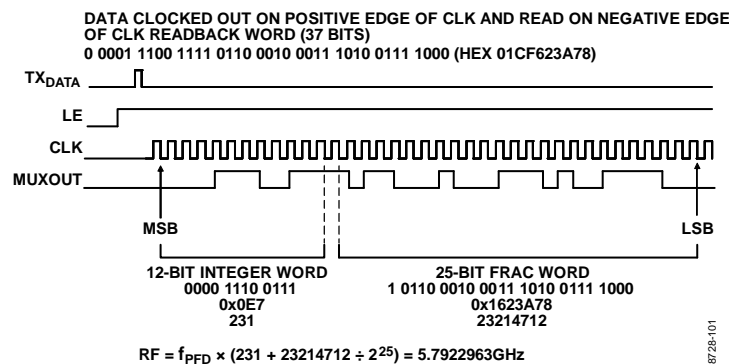

Figure 44. Reading Back Single Bits to Determine the Output Frequency at the Moment of Interrupt
The mechanism of how single bits are read back is shown in Figure 44.
- Frequency readback (as described at the beginning of the Interrupt Modes and Frequency Readback section and Figure 44)